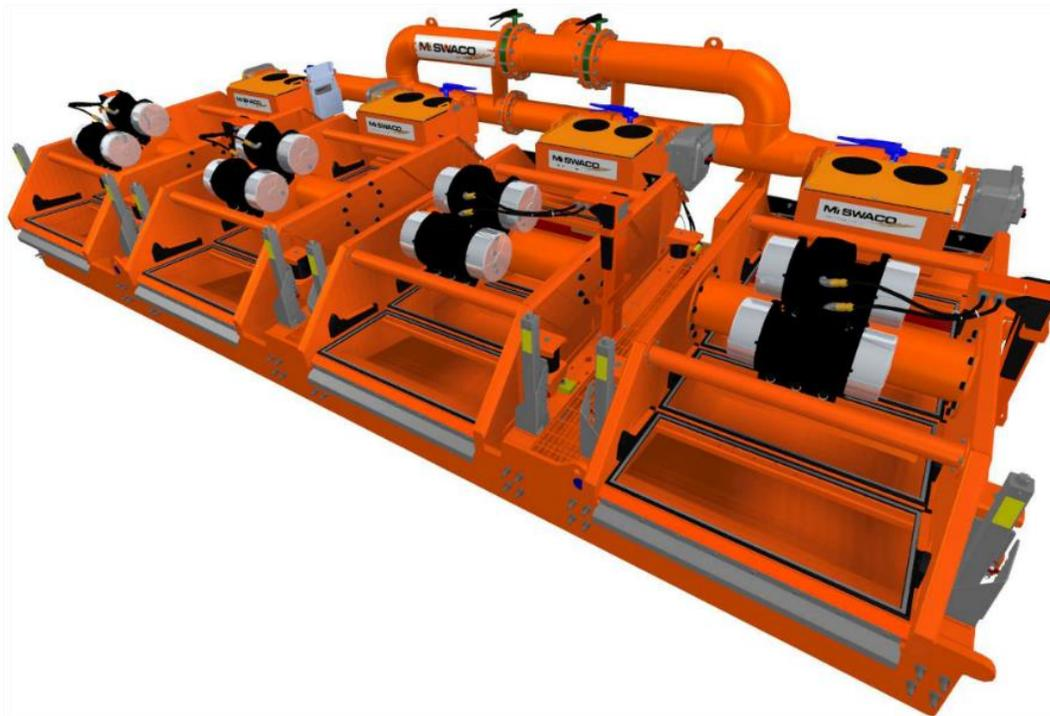

Figure 7. MONGOOSE PRO Quad Shakers
- Mud feeds into the back of the feed manifold assembly with the flow evenly distributed to each of the header boxes (Refer to Figure 7).